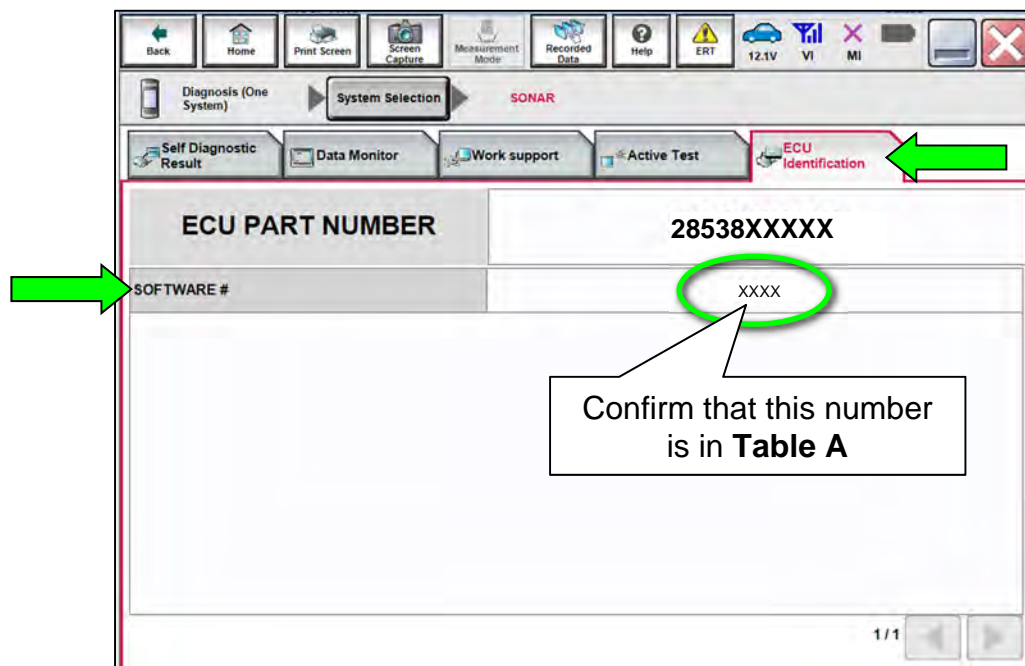

Figure 39
62. Confirm the **SOFTWARE #** (Figure 39).